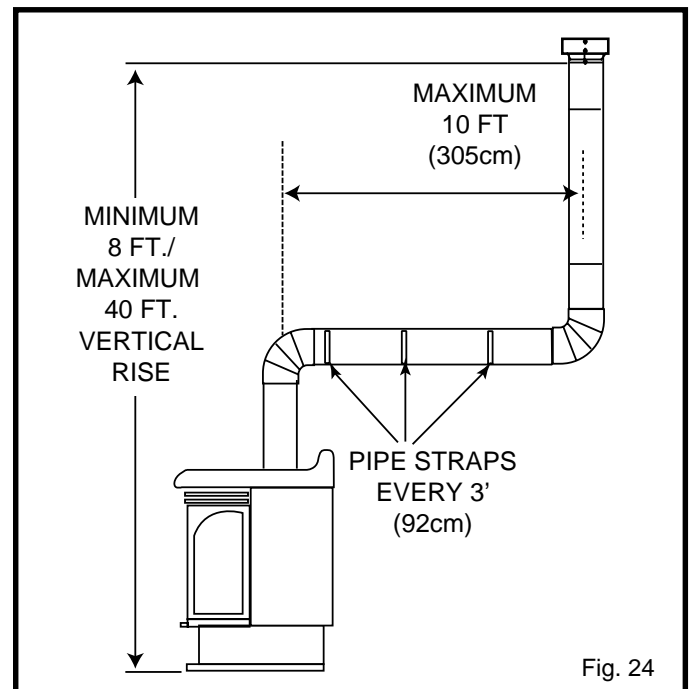

Fig. 24
- a) Vertical installations up to 40 feet (12 metres) in height. Up to a 10 ft. horizontal vent run can be installed within the vent system using a maximum of two 90° elbows. (Fig. 24)